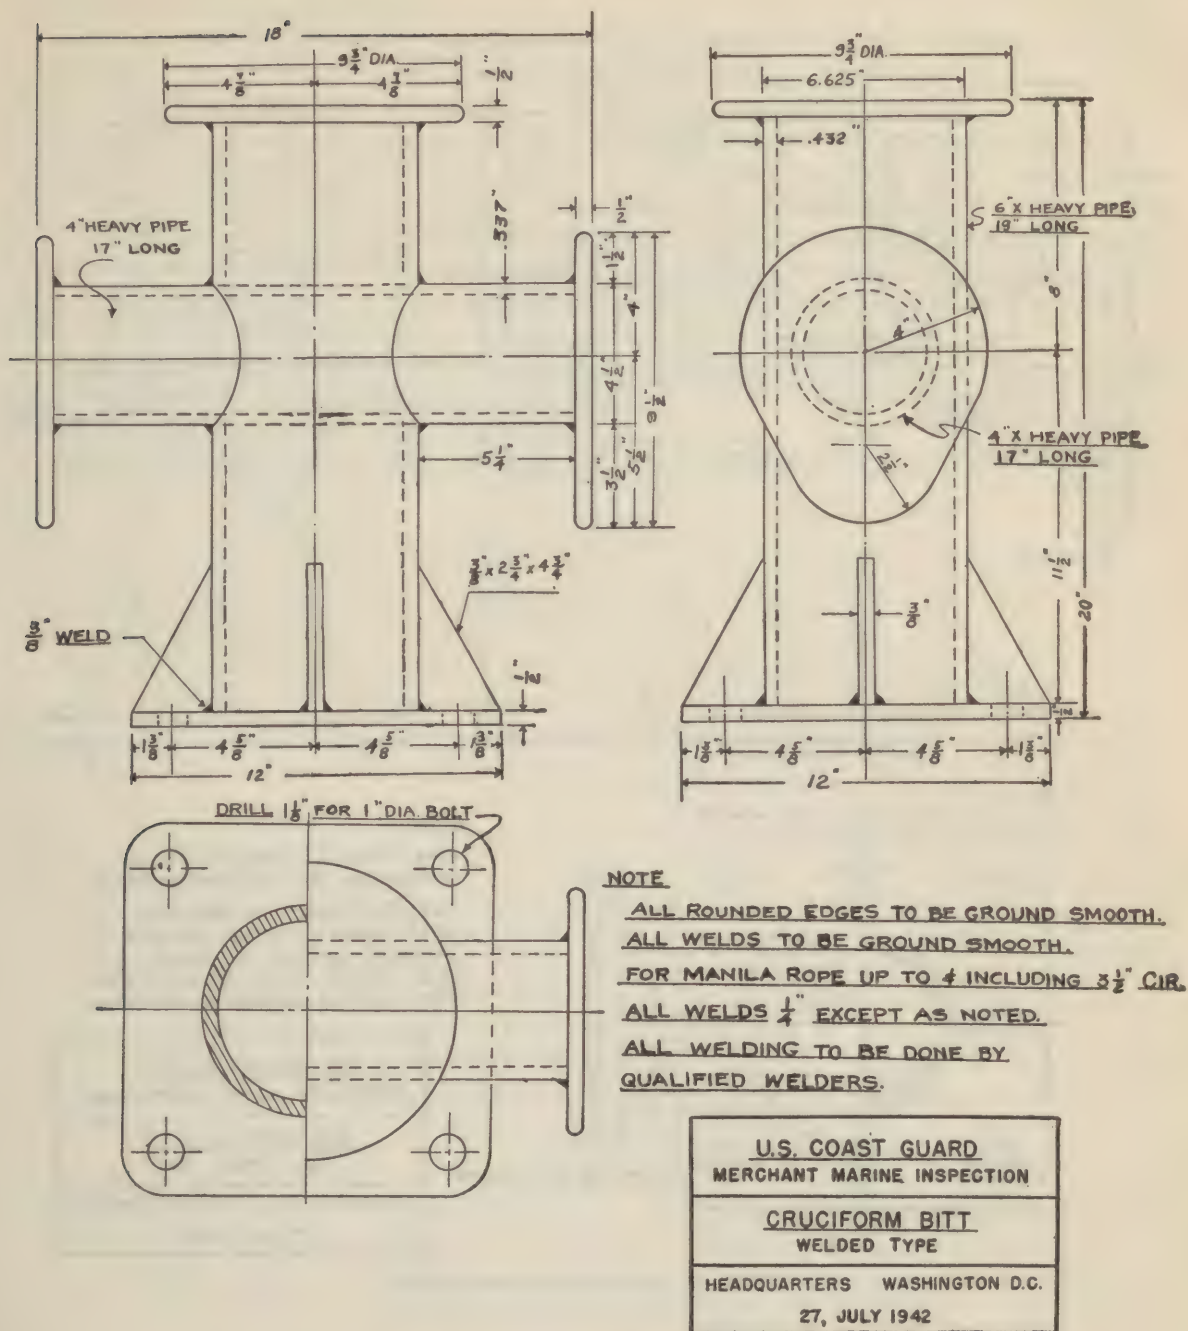

FIGURE 2.—Cruciform bitt, welded type.
**Cruciform bitts.**—In order that manila falls may be surged safely and easily, the cruciform bitts fitted under the above regulation are to be of suitable size and properly designed. The sizes indicated in Figures 2 and 3 indicate the minimum diameters and the general design which should be utilized. Where manila falls which are materially over 3½ inches are fitted, larger bitts should, of course, be provided.